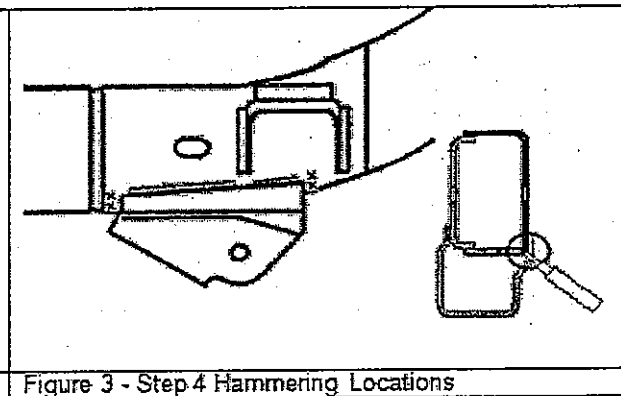

Figure 3 - Step 4 Hammering Locations
4. Using a 3/16 flat punch and a 12-16 oz. hammer, hammer on the locations identified with an "X" in Figure 3.